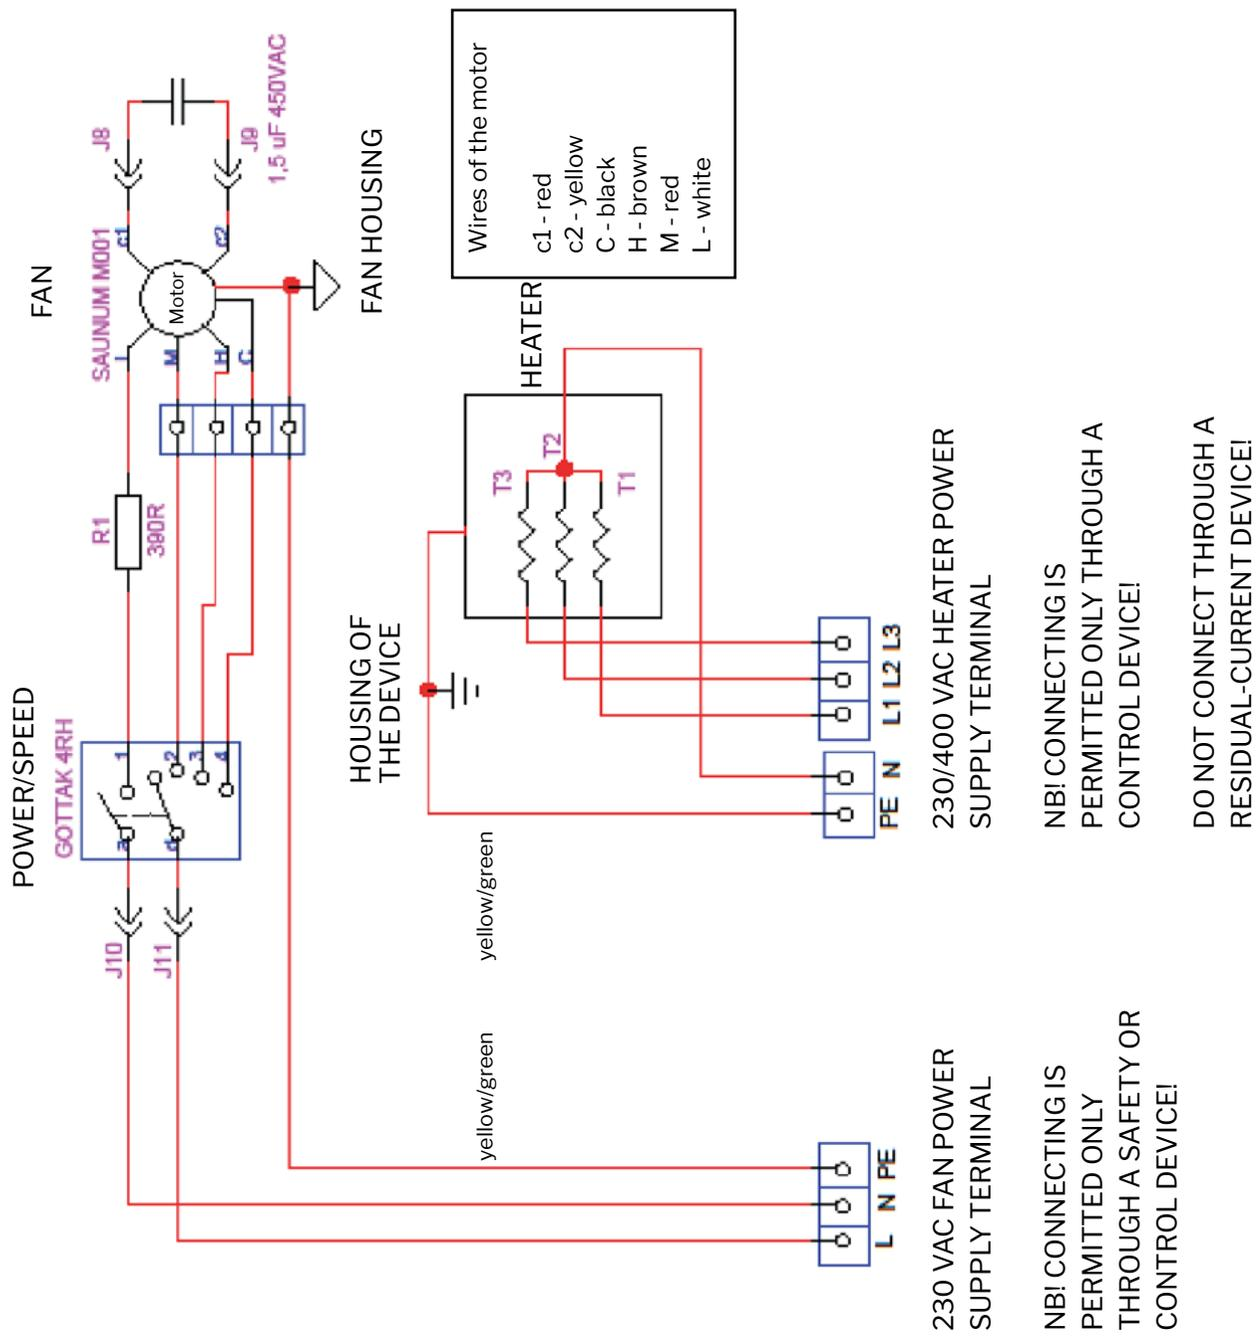

Figure 2: Electrical circuit diagram of the sauna climate device
- The internal connections of the device are made using screw terminals pursuant to figure 2 and table 1 in this manual.
- A protective earth (PE) connection with conductors of at least 2.5 mm² must be connected to the connection terminal of the device.
- If the device's air circulation fan is to be connected separately from the heater control device, the fan must be connected via a residual-current device. In this case, the PE power fan inlet terminal (PE) earthing must not be combined with the heater power terminal protective earth. Also, in this case, use earthed cables of at least 1.5 mm² to power the fan.